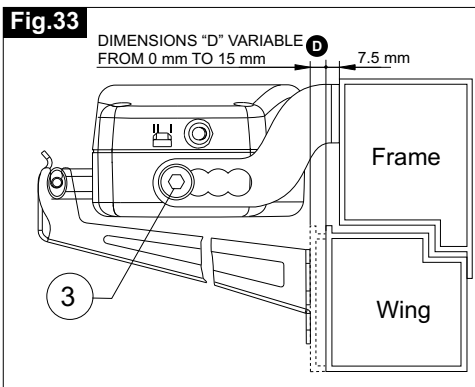

Fig.34
- 9) **Fig.34/35**- Adjust the opening stroke by the switch (**Fig.34-Ref.1**) located on the right side of the actuator according to the opening of the wing and tighten the chain end adjustment screw (**Fig.35-Ref.2**);